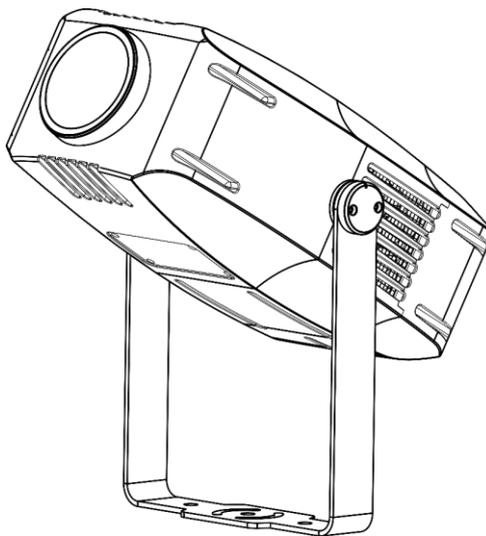

Fig. 09
- 02) Install all elements as shown in Fig. 09.